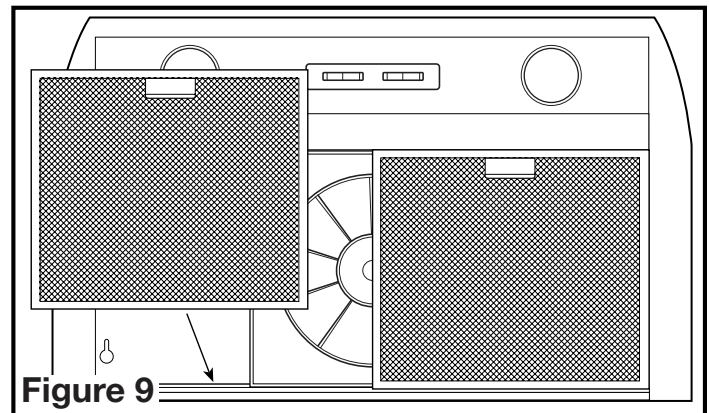

Figure 9
2. Reinstall the filters by fitting them into the channel on either side of the hood and pushing upwards on them until they are secured in place (Figure 9).